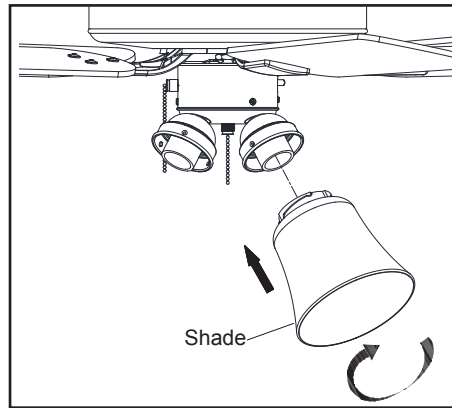

Figure 14
6. Place the shatter resistant shade into the light kit assembly, aligning the three flat areas on the top flange of the shatter resistant shade with the three raised dimples in the light kit assembly. Turn the shatter resistant shade clockwise until it stops. (Figure 14)